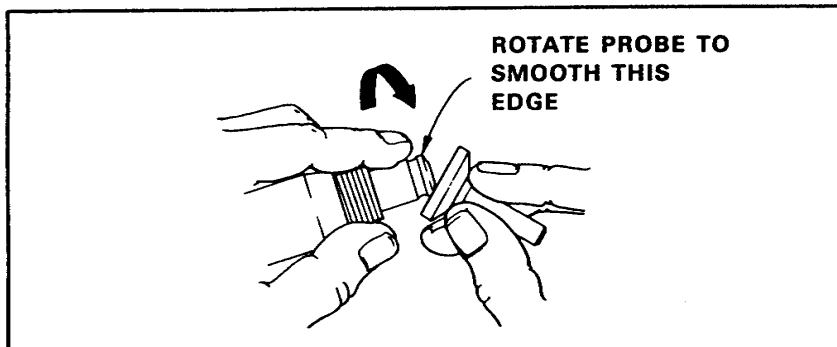

Figure 6 - Smoothing the edge
- D. Use the tool to slightly radius the outer edge of the probe face. (See Figure 6.)